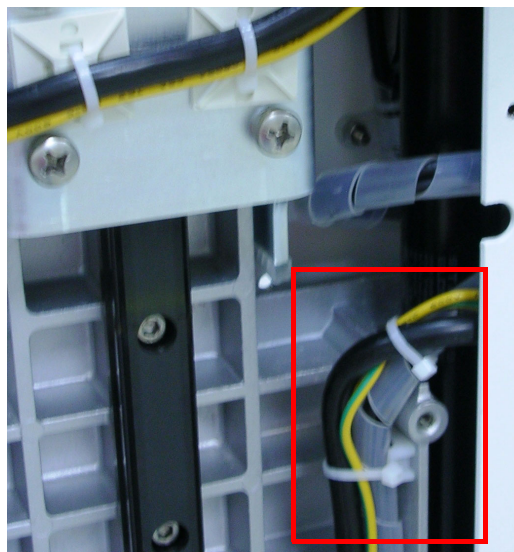

Figure 8-89 Peripheral AC Outlet Cable Fastened to Main Harness Cable
- 7.) Fasten the Peripheral AC Outlet cable to the Main Harness cable as shown in Figure 8-89.